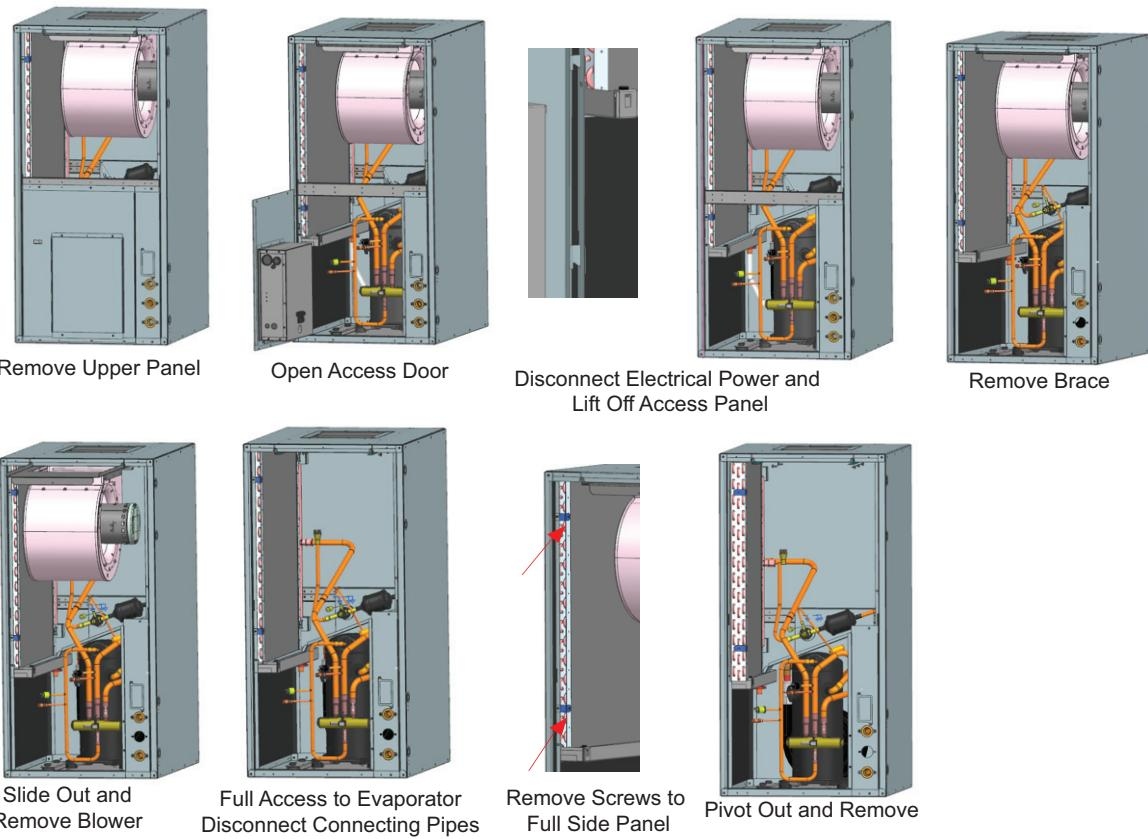

Fig. 40 — Evaporator Coil Service on Vertical Units
3. Remove the three screws positioned above the motor. See Fig. 40 and.